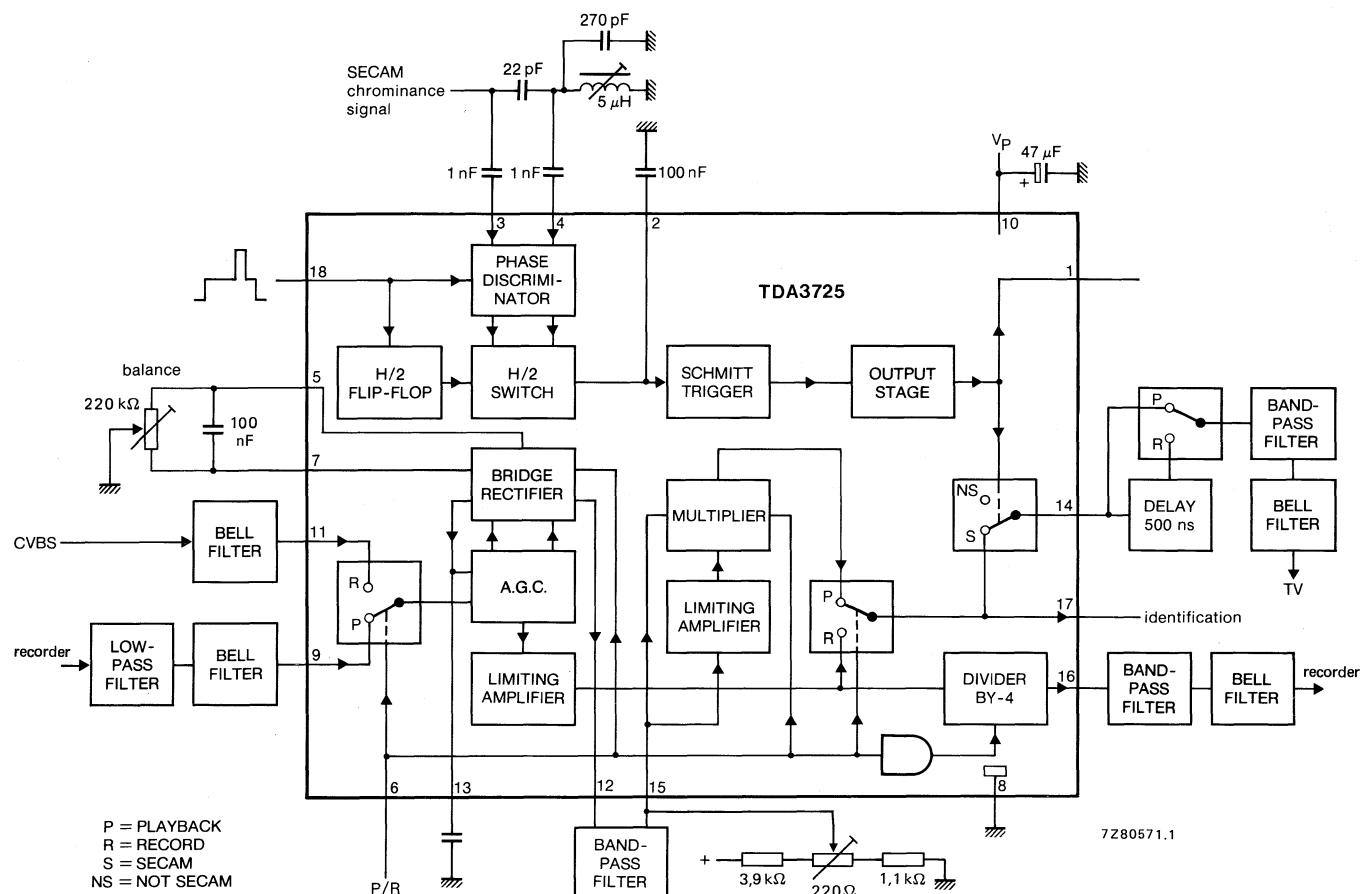

Fig. 1 Block diagram.
**CHARACTERISTICS**VP = 10 V; Tamb = 25 °C; measured in Fig. 1, unless otherwise specified